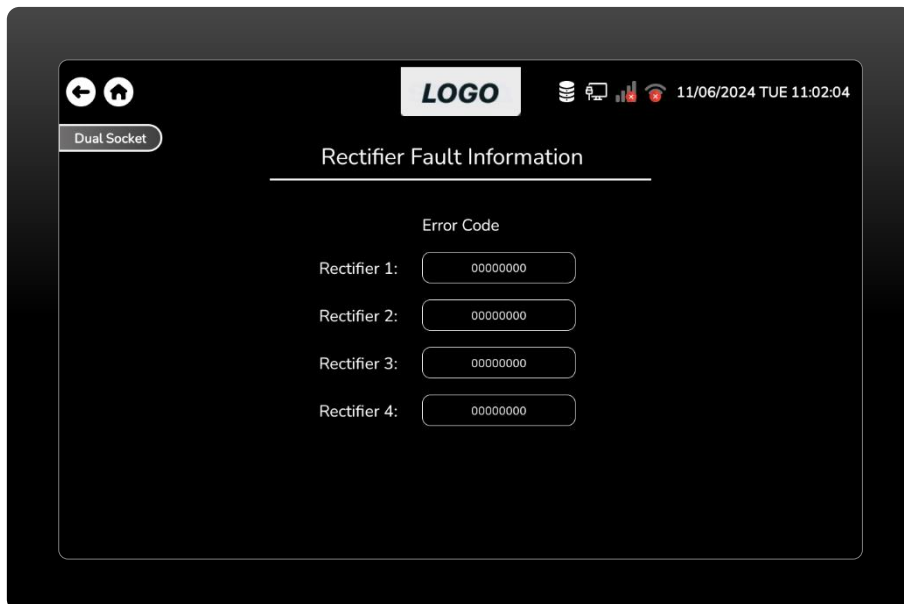

Figure 104 Rectifier Fault Information Screen.
- This is the rectifier fault information screen, where the user can view the error codes of rectifiers. (Figure 104)